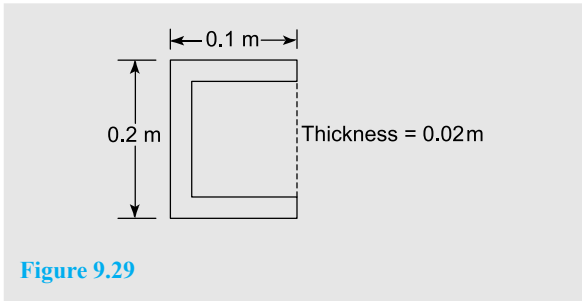

Figure 9.29
- Problem 17.** Determine the second moment of area about a horizontal axis passing through the centroid, for the channel section shown in Figure 9.29.